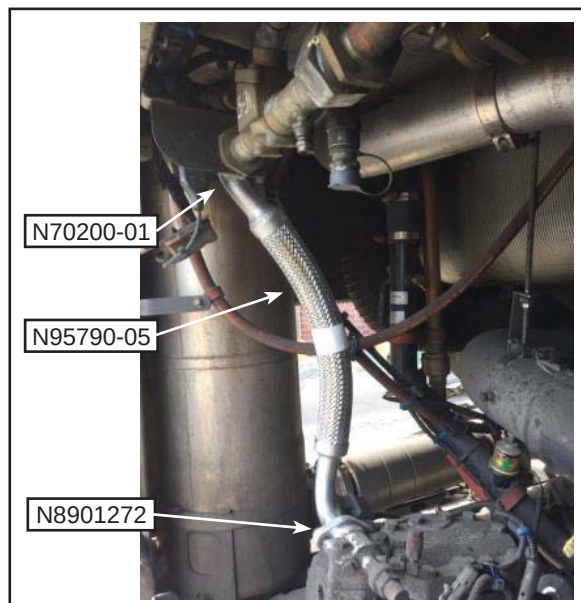

Figure 2 - N95790-05 Hose Installation
- 1.4. Install N95790-05 hose, N70200-01 O-ring and N8901272 gasket. See Figure 2. Tighten to specified torque. See Figure 3. Apply torque seal.